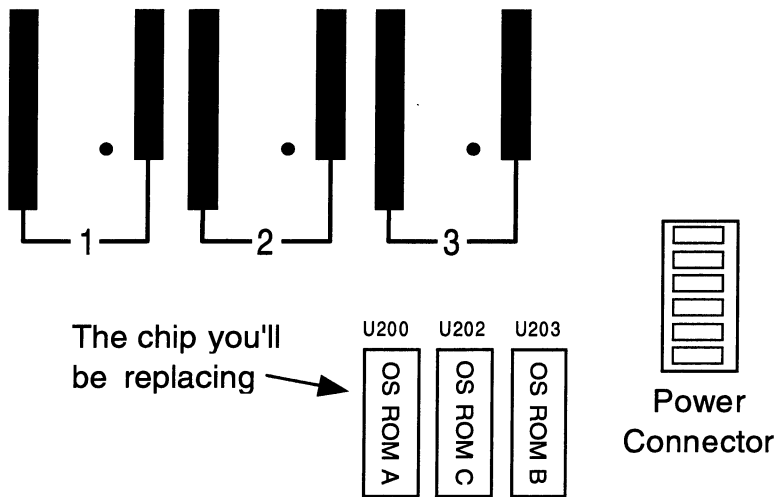

Figure 7 - EPROM Location
7. Locate the U200 O.S. EPROM chip on the mainboard (figure 7):